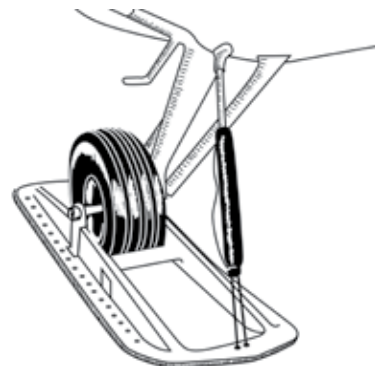

Figure 3 Penetration Ski.
- **Penetration ski** – The wheel extends down partially below the ski, allowing the skiplane to operate from both snow and nonsnow surfaces and causes extra drag when on snow (Fig. 3).